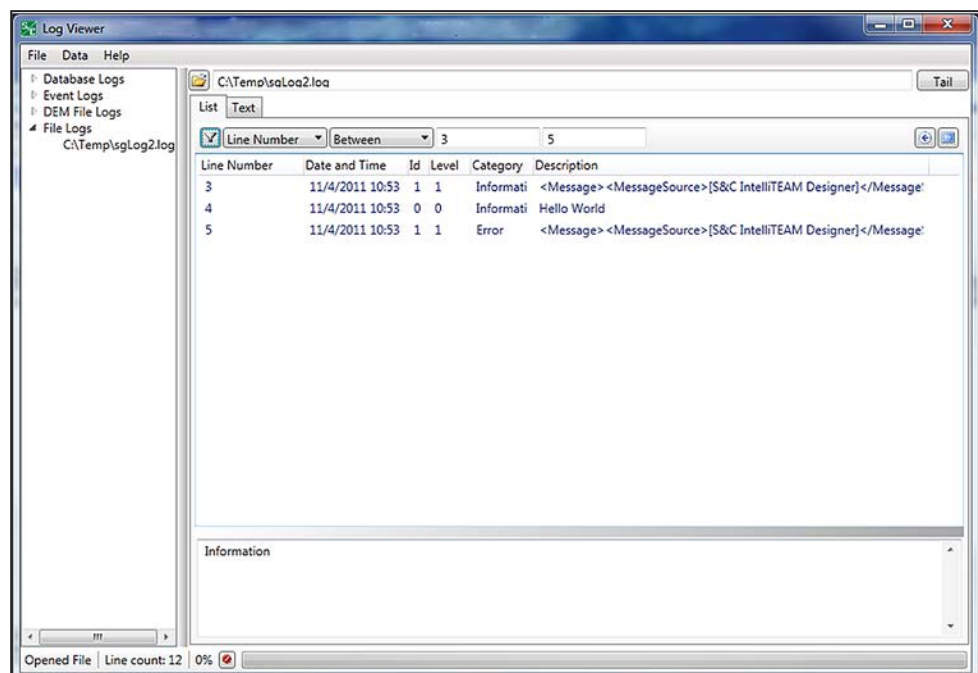

Figure 136. Data filtered to display from line number 3 to line number 5.
STEP 5. The line number can be filtered to start a #3 and end at #5. See Figure 136.